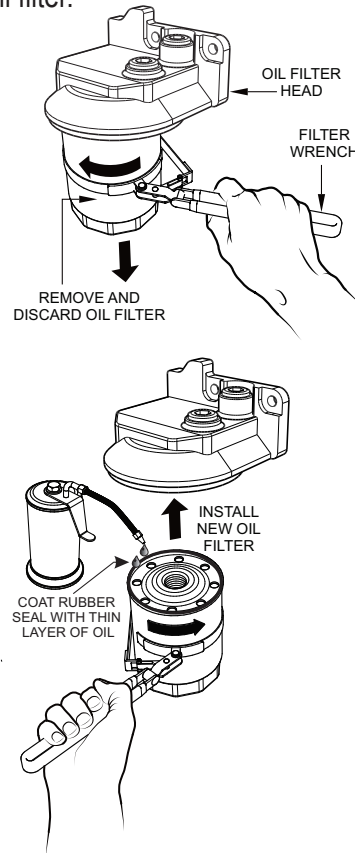

Figure 68. Engine Oil Filter Removal
1. Using an oil filter wrench (Figure 68), remove the engine oil filter.
3. Coat the rubber seal (gasket) surface of the new oil filter (Figure 68) with clean 15W-40 engine oil.